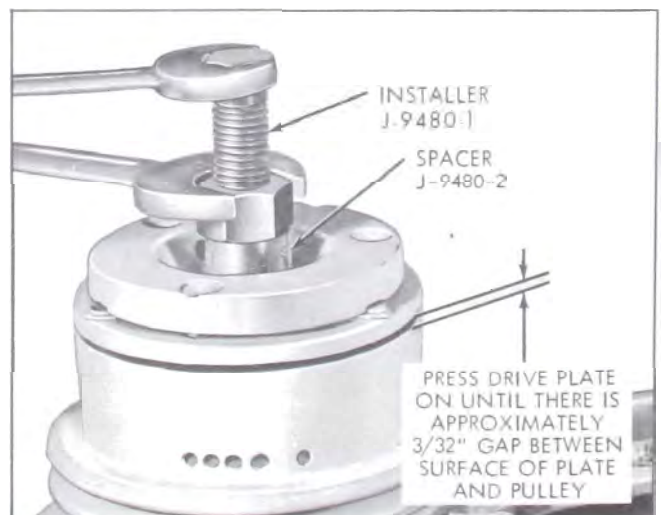

Figure 11-41—Installing Drive Plate Assembly
3. Place "Free" spacer J-9480-2 on drive plate installer J-9480-1 and thread installer on end of compressor shaft. See Figure 11-41. Press the drive plate on shaft until there is approximately $3/32''$ (.094) space between the frictional faces of the drive plate and pulley as shown.